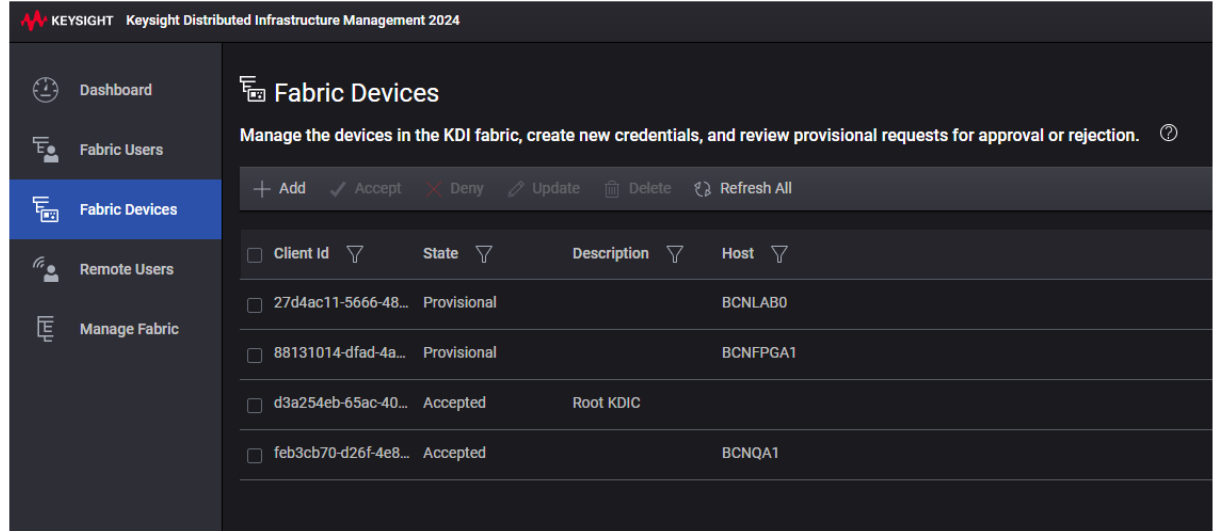

Figure 43 Accepted state of the leaf node
- 2 Click **Accept**, if it is a valid host. The leaf-node BCNQA1 is now in Accepted state as shown in Figure 43.